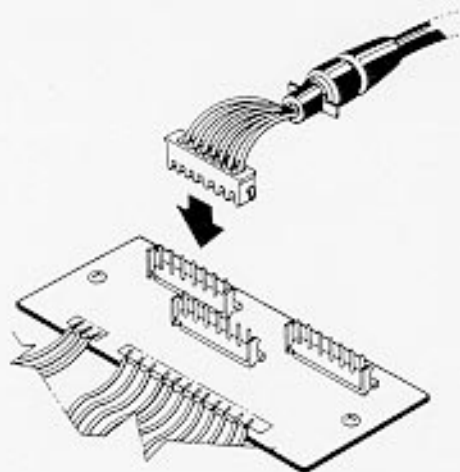

Fig. 4. Additional output cable
5. Additional output cables (Fig. 4)